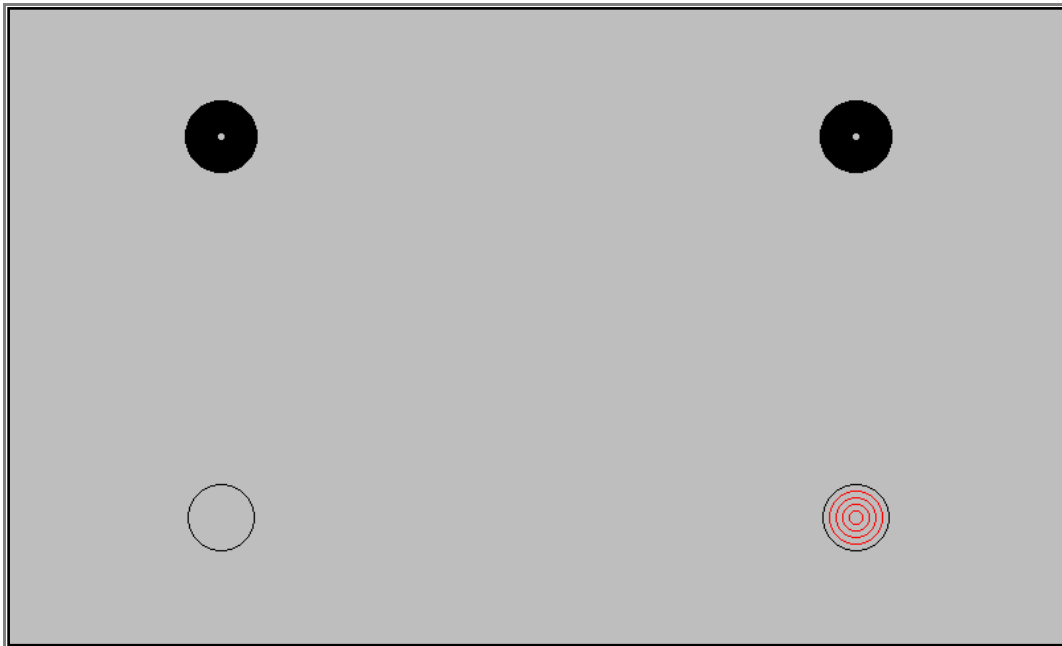

Figure 6: Screen calibration window
3. The screen calibration window contains four points (see Figure 6). Touch the area with the red pulsating circles to calibrate the screen. Repeat this action for each of the four points. After an area has been pressed, the circle will turn black.